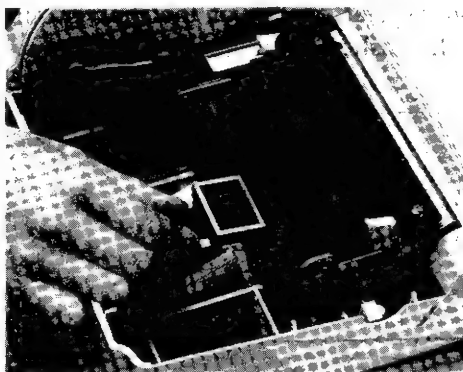

Fig 7-1.
3. Feed one or two drops of ink into the holes on the back of the stamp pad (Fig. 7-1)